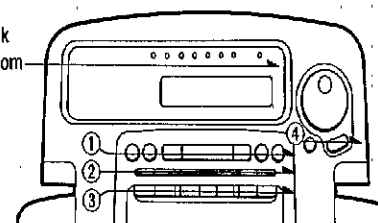

Fig. 2
2. If you press the buttons on the cobra top in the order of ①, ②, ③ and ④ shown in fig. 2, the LCD will appear in the order as shown in fig. 3.